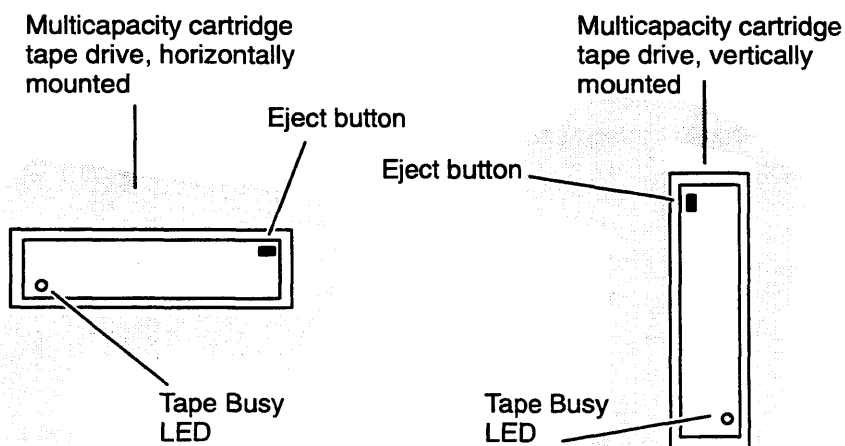

Figure 6 Eject Button and Tape Busy LED
4. Press the eject button shown in Figure 6 to open the drive door.
2. Press the cartridge eject button shown in Figure 6. When you do, the cartridge tape will eject part way out of the opening of the drive.
1. Press the cartridge eject button shown in Figure 6. When you do, the tape cartridge will slide part way out of the opening of the drive.